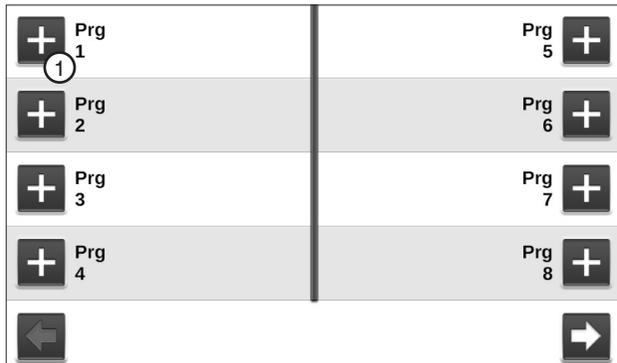

Figure 124-1 Step Programs Screen
1. Push **Menu**, **Programs** and **Step Programs** to view the Step Programs screen. Refer to Figure 124-1.